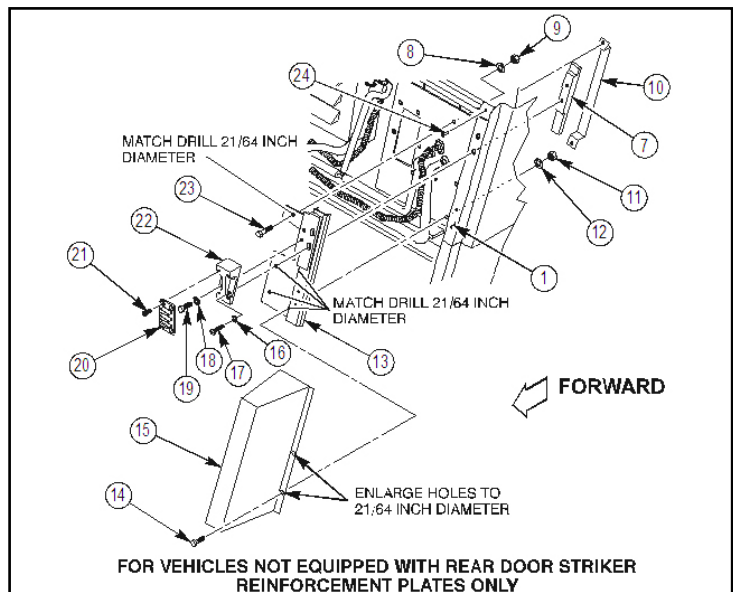

Figure 25c.
- j. Install 1000321-002 rear door striker tapping plate (7) through access area, and temporarily hold in place with one 4397018-096 screw (17). Refer to figure 25c.
- k. Install 1000322-002 rear door striker retainer strap (10) on rear side of body channel (1) over rear door striker tapping plate (7), and secure with two 4397081-009 rivets (24) as shown in figure 25c. Remove screw (17).